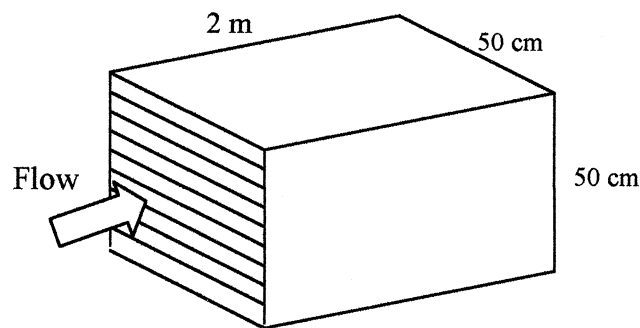

Fig. P6.88
**6.88** An oil cooler consists of multiple parallel-plate passages, as shown in Fig. P6.88. The available pressure drop is 6 kPa, and the fluid is SAE 10W oil at 20°C. If the desired total flow rate is 900 m3/h, estimate the appropriate number of passages. The plate walls are hydraulically smooth.